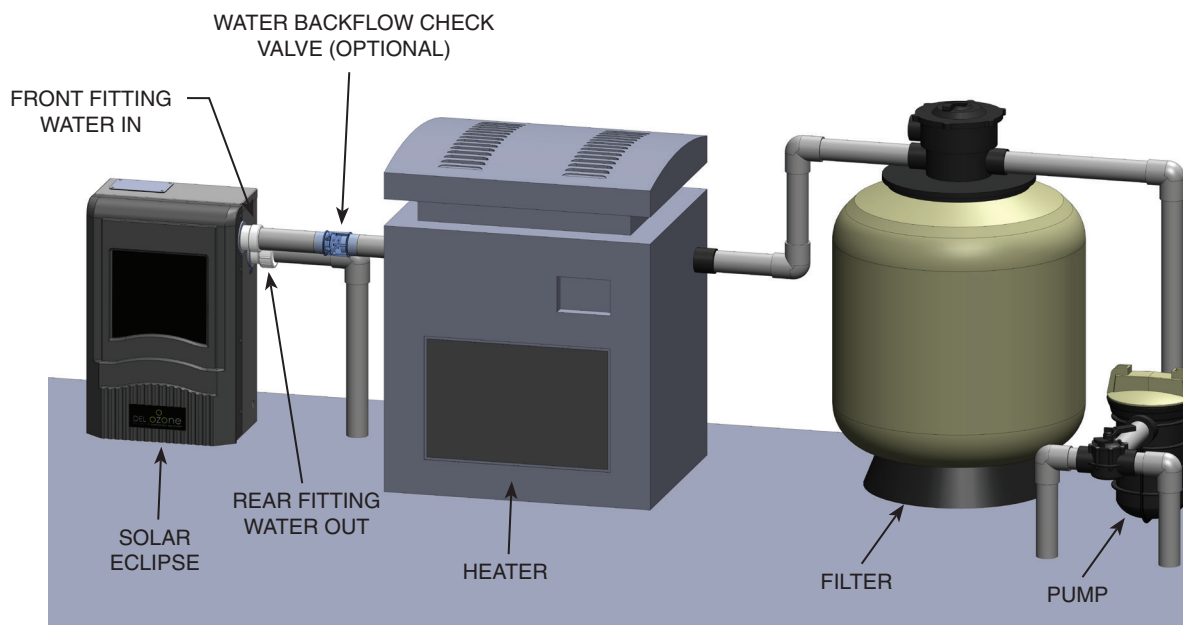

Figure 3: Solar Eclipse Location in Pool Loop
- Install at least 5 feet (1.5 meters) from wall of pool. Install ozone generator no less than one (1) foot above maximum water level to prevent water from contacting electrical equipment. Install in accordance with the installation instructions.
- The Solar Eclipse must be installed in an outdoor location, or indoors in a forced air ventilated room, and installed so that the orientation is exactly as shown in Figure 3. Install to provide water drainage of generator to protect electrical components.
The Solar Eclipse must be installed in the pool's main return line after all other pool equipment (pump, filter, heater, and cleaner). Figure 3 shows the most basic installation. For installation with additional sanitizers and pool cleaners contact DEL Technical Support (see Section 6A).
plumbing as shown above in Figure 3.